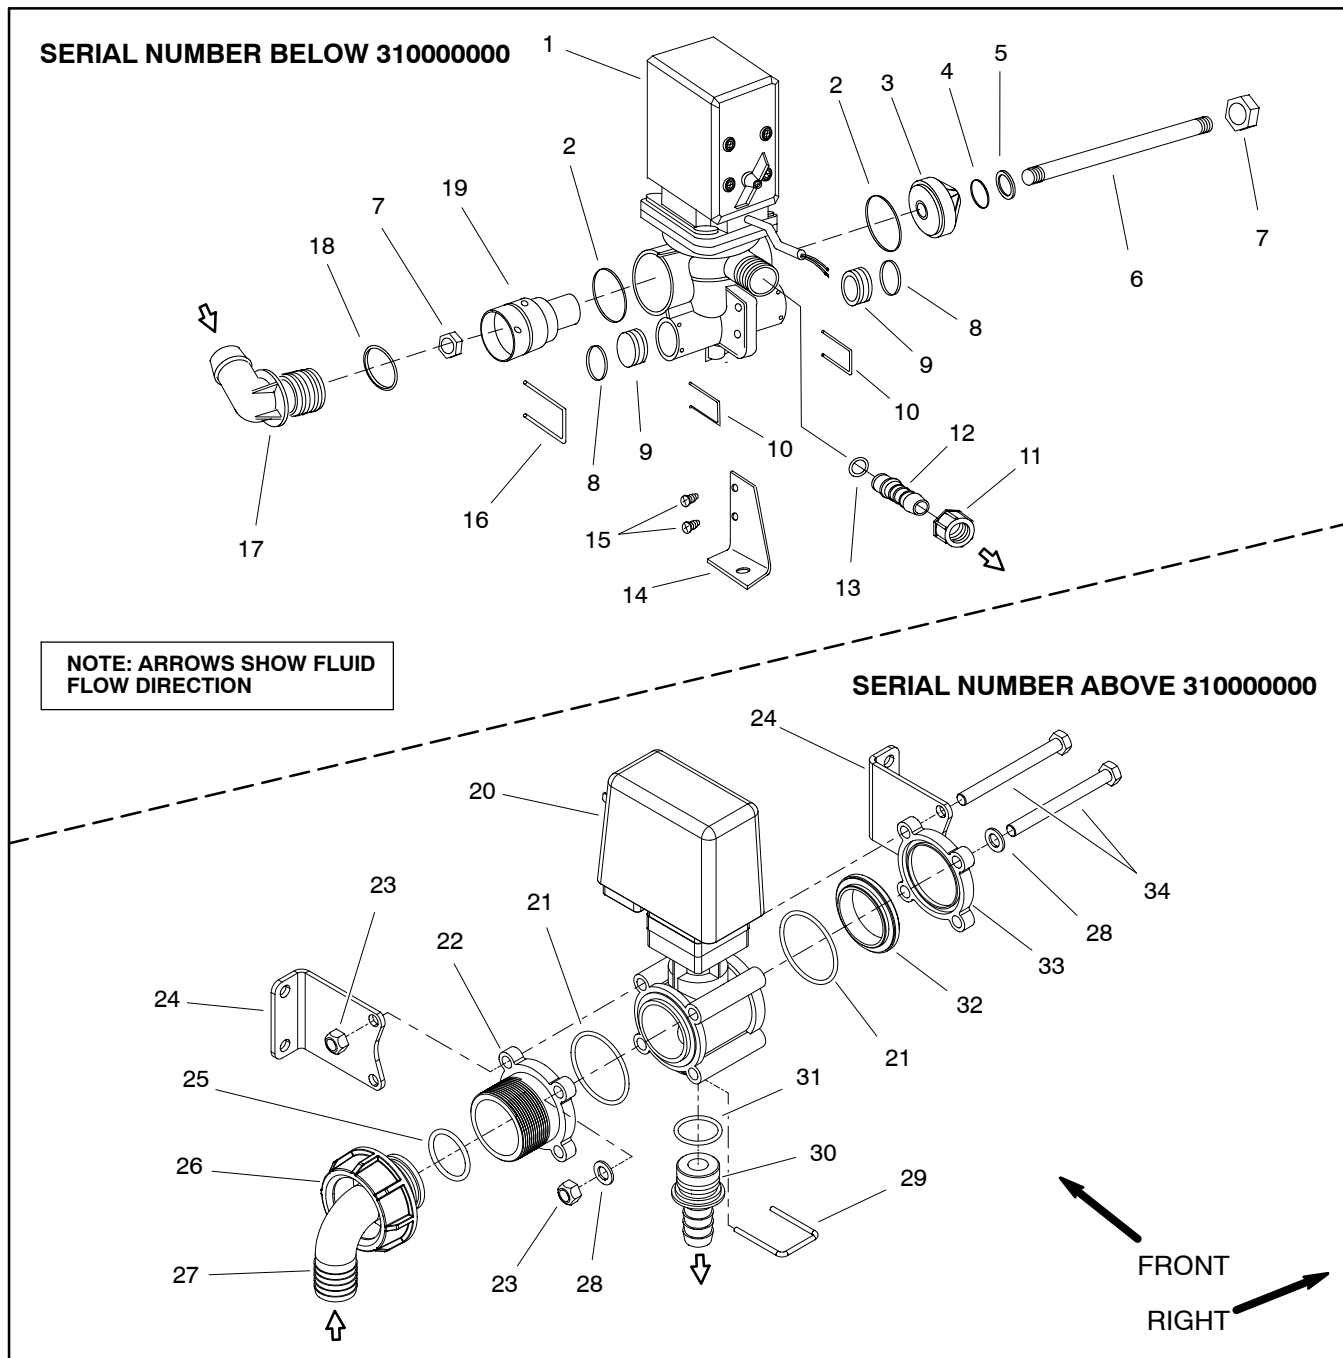

Figure 27
The agitation switch on the operator spray console is used to energize the agitation valve motor and open the valve. The open agitation valve allows system flow to reach the three (3) agitation nozzles located in the spray tank. Two (2) styles of agitation valve motors have been used on Multi Pro 5700-D machines. Both of these motor styles are shown in Figure 27.
Disassembly (Fig. 27)
2. Disassemble agitation valve motor assembly as needed using Figure 27 as a guide. Discard all removed O-rings and gaskets.
Assembly (Fig. 27)